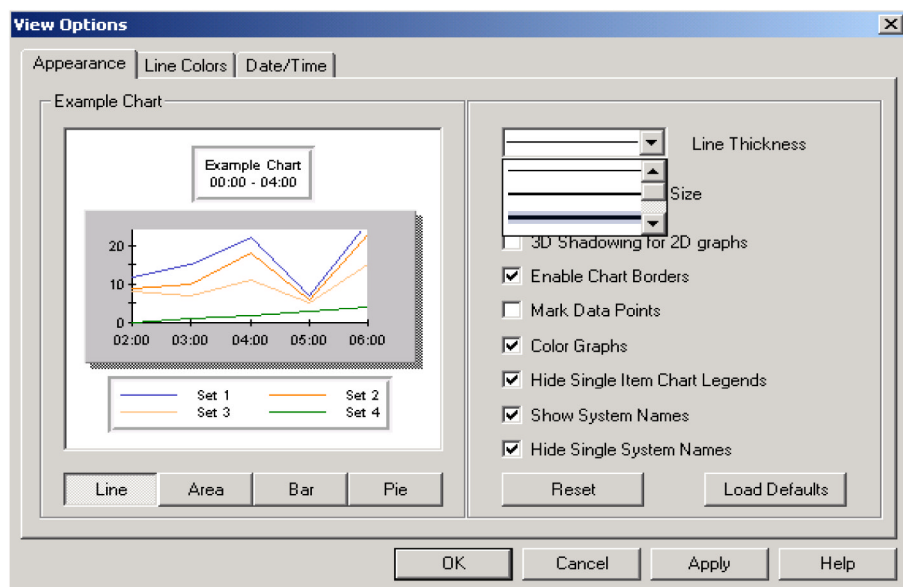

Figure 5.26 View Options: Appearance tab with Data Points disabled and Line Thickness menu extended
- 3 Disable **Mark Data Points** by clicking in the check box (see Figure 5.26).